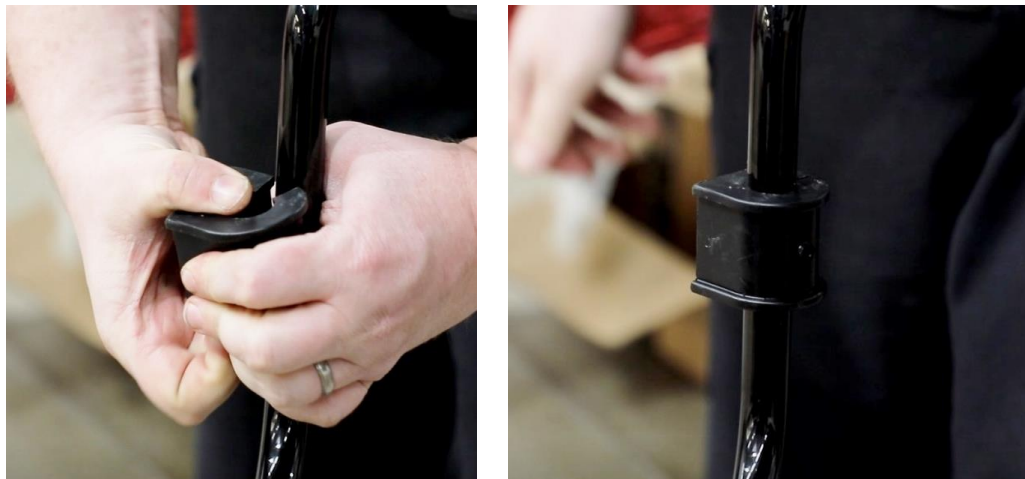

Figure 4 - Install Bushings
6. Spread the polyurethane bushings so they fit around the sway bar (Figure 4). Locate the bushings as close to the 90° bends on the sway bar as possible.